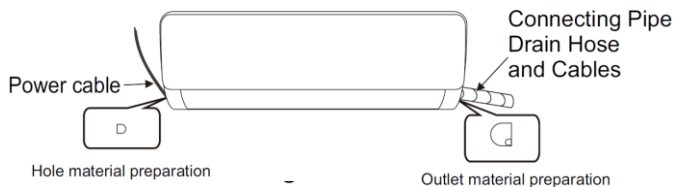
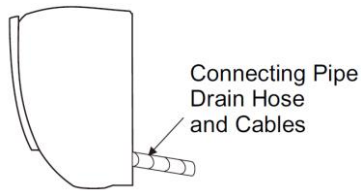

Fig. 5
Fig. 6
1. Depending on the position of the unit, the piping may be routed sideway from the left or the right (Fig. 5), or horizontally from the back (Fig. 6) (depending on the pipe length of the indoor unit). In the case of sideways routing, cut off the outlet cutting stock of the opposite side.